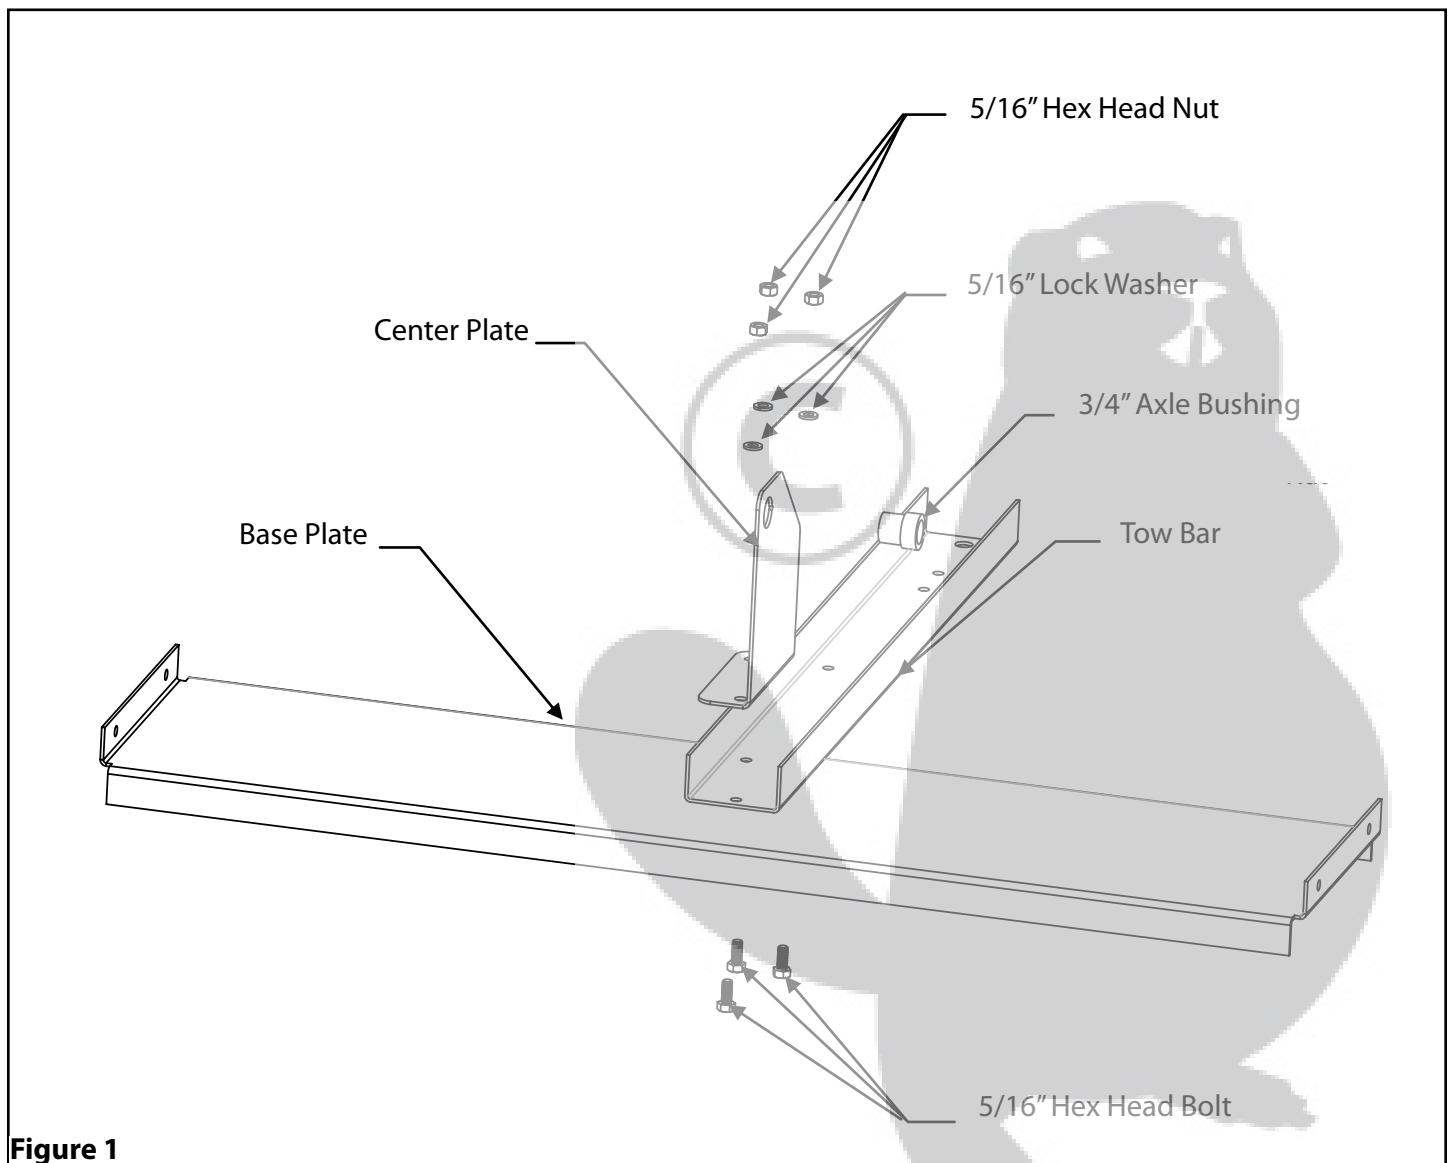

Figure 1
1. Place the Base Plate on a flat surface, insert a 5/16" x 3/4" Hex Head Bolt into the top right hole, then insert the bolt into the corresponding hole of the Tow Bar. Place a 5/16" Lock Washer onto the bolt and secure with a 5/16" Hex Head Nut. Next align the Center Plate with the two remaining holes. Insert 5/16" x 3/4" Hex Head bolts through the holes in the Base Plate and the corresponding holes of the Tow Bar and Center Plate. Place a 5/16" Lock Washer onto each bolt and secure with 5/16" Hex Head Nuts. Insert a 3/4" Axle Bushing into the Center Plate. See Figure 1.